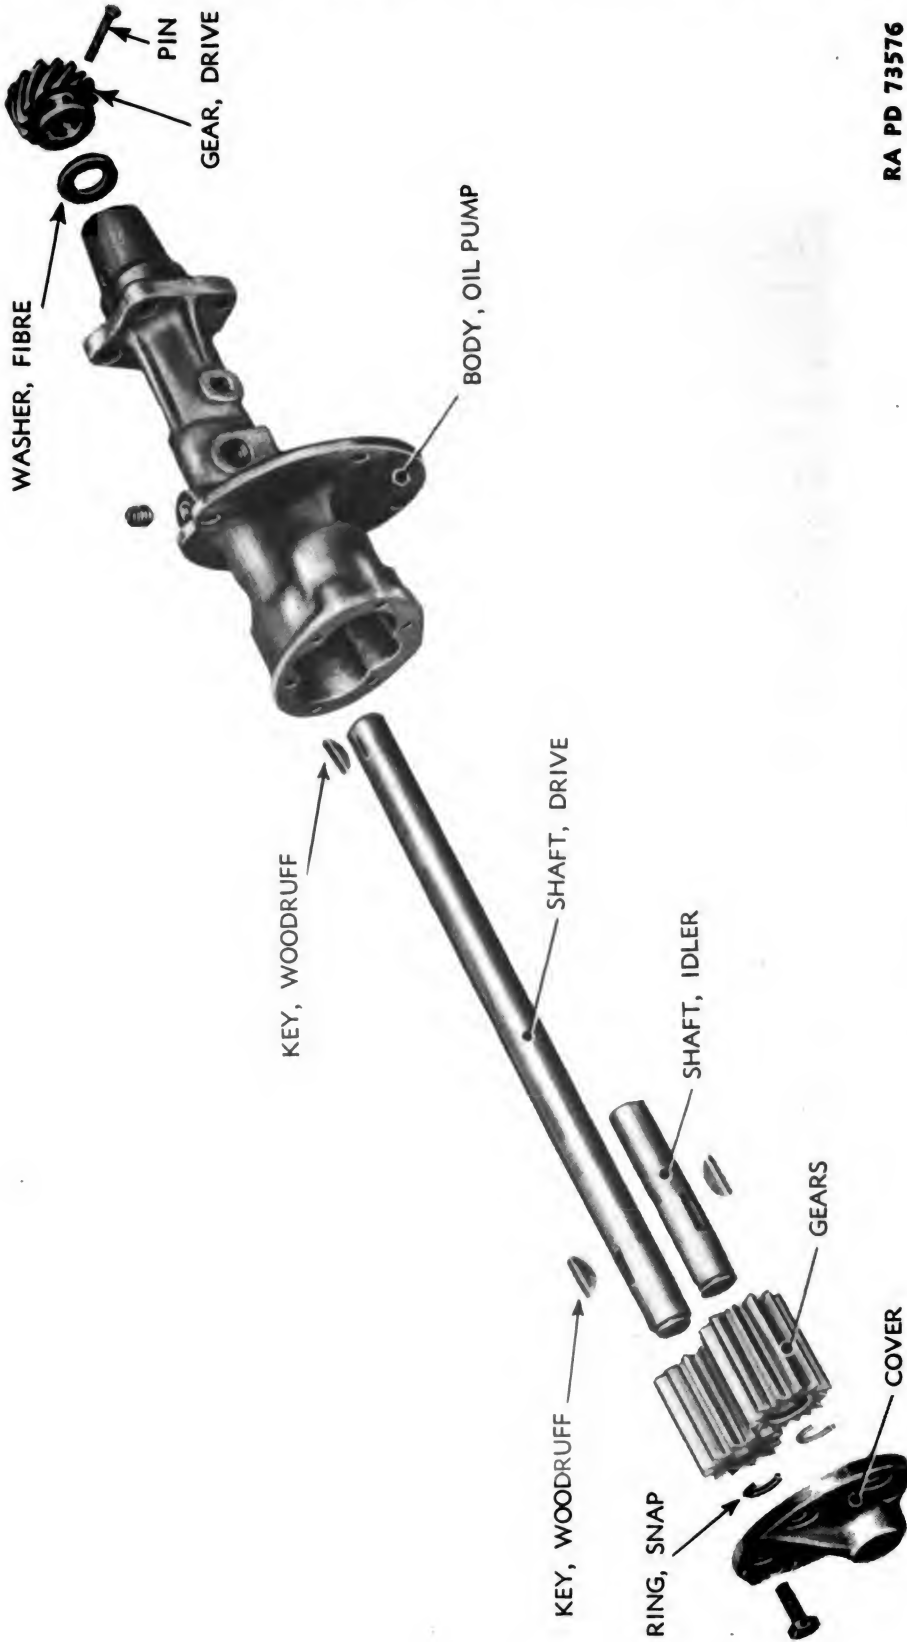

Figure 127 — Oil Pump Details
c. **Disassembly** (fig. 127).
(1) Remove wire securing baffle shell cap screws together. Take out cap screws holding baffle shell to oil pump body, and remove baffle shell and gasket.
(2) Take out wire fastening cover plate cap screws together. Remove cap screws. Take out snap rings holding spur gears to shafts, and remove gears and idler shaft.
(3) File down peened-over end of drive gear pin, drive out pin, and slide gear and washer from shaft, and shaft from oil pump body.